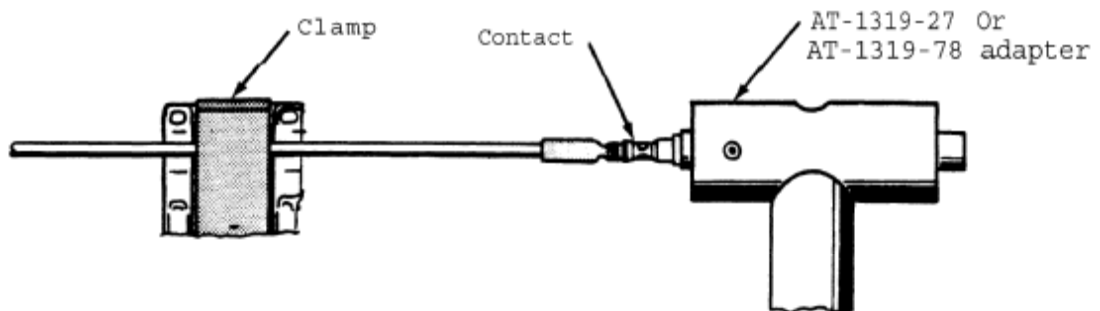
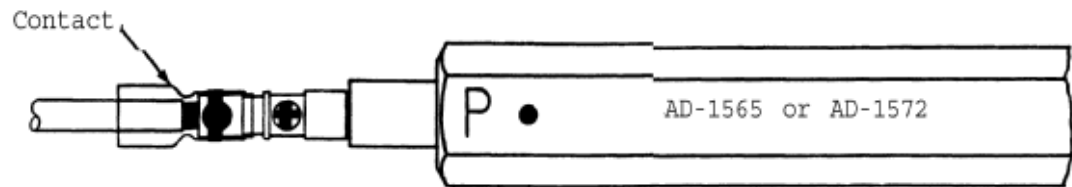

Figure 6-3. Contact Inserted into AT-1319-27 or -78 Adapter
Figure 6-4. Contact Inserted into AD-1565 or AD-1572 Repair Holding Fixture
1. Insert the contact/cable assembly into the appropriate end of the adapter (Figure 6-3) or repair holding fixture (Figure 6-4).